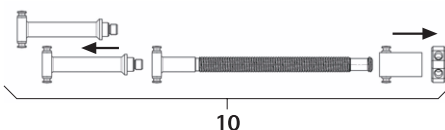

Fig. 6
- Dismount distraction spindle 10, see Fig. 6.